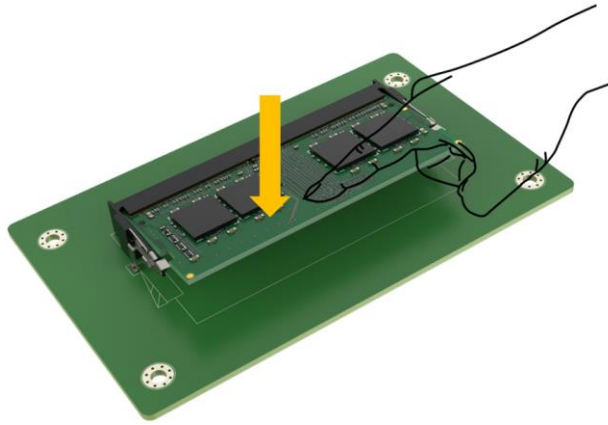

Figure 3-4: Press down the Memory Module
Step 3: Once aligned, press down until the memory module is properly seated and the two handles fully clip into place (**See Figure 3-4**).